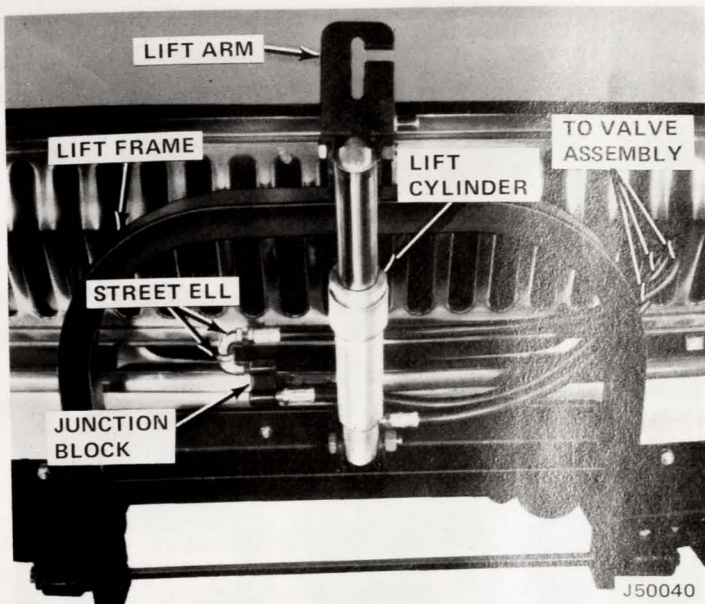
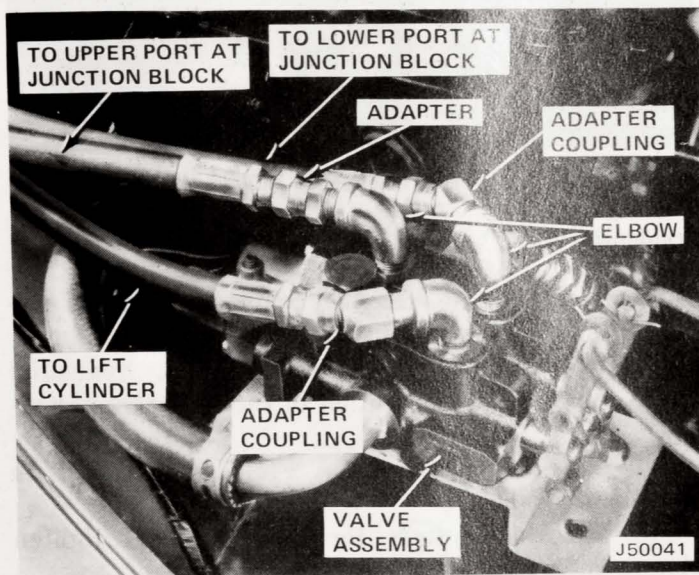
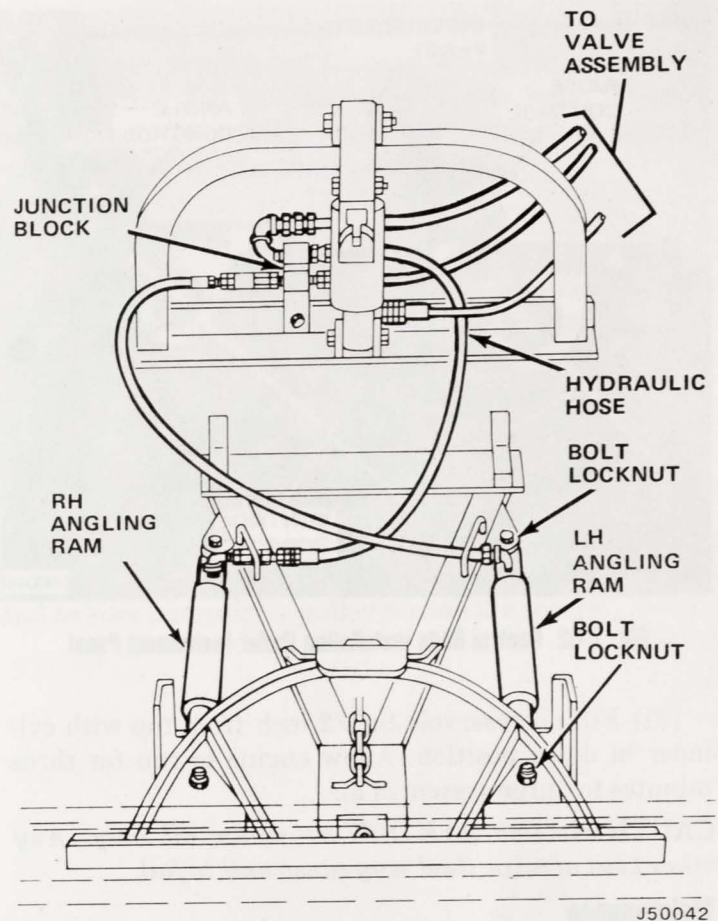

Fig. 1-58 Lift Cylinder and Junction Block Installation
Fig. 1-59 Lift Cylinder and Junction Block Hose Installation
Fig. 1-60 Angling Ram and Hose Installation
(13) Install lift cylinder, lift frame, and lift arm, using two bolts and locknut. (fig. 1-58).
(14) Position junction block on right side of lift frame angle and drill one 3/8-inch hole. Secure with bolt, lockwasher, and nut.
(15) Install street ells in upper right opening in junction block (fig. 1-58).
(16) Drill holes in front end sheet metal and insert grommets for routing of hoses from junction block and lift cylinder to valve assembly.
(17) Install three elbows, two adapter couplings, and adapter at valve assembly (fig. 1-59).
(18) Route hoses from lift cylinder and junction block through grommets in front end sheet metal to valve assembly and connect.
(19) Install angling rams on A-frame and sector assembly (fig. 1-60).
(20) Install two nipples, one into right angling ram and one into bottom of junction block (fig. 1-60).
(21) Install 90-degree elbows on angling rams.
(22) Install couplers, one to nipple on right angling ram and one to nipple on valve block.
(23) Install hydraulic hoses to angling rams and junction block (fig. 1-60).